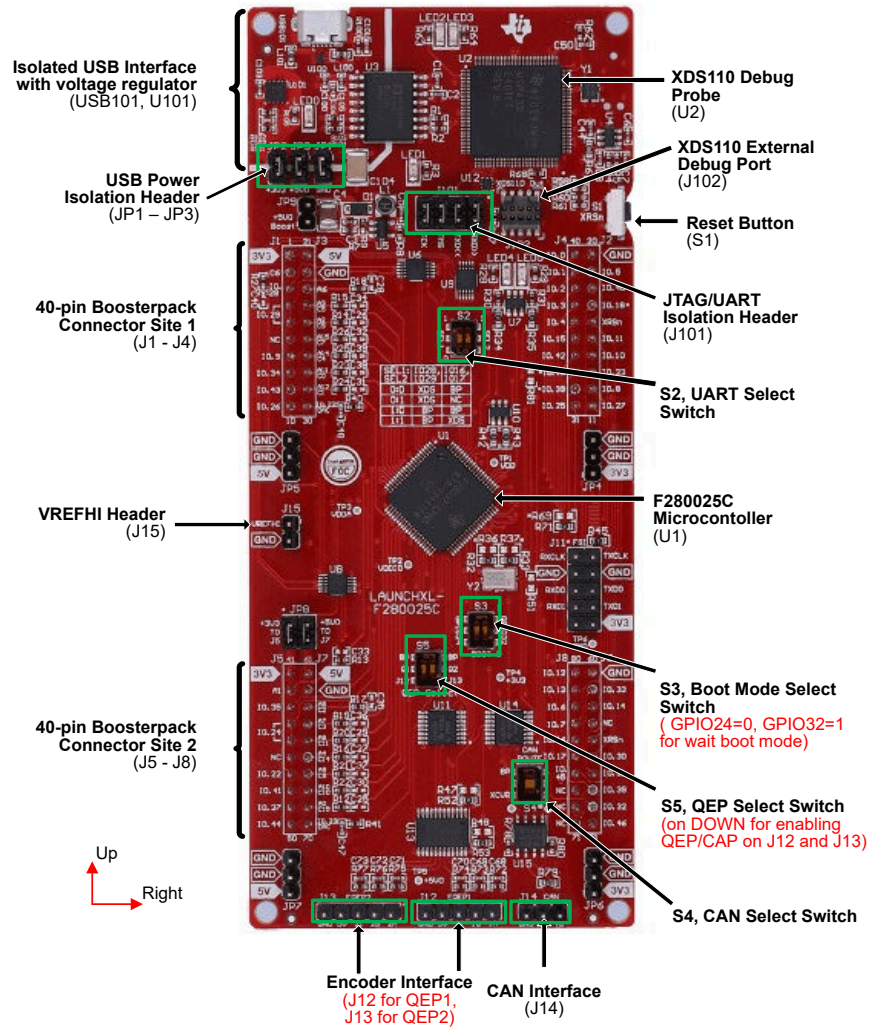

Figure 2-1. F28002x LaunchPad Board Overview and Switches Setting
- Make sure that switches on LAUNCHXL-F280025C are set as described below shown in Figure 2-1.